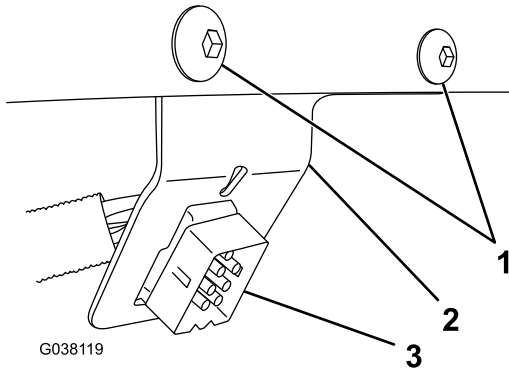

Figure 9
7. Pull the plow controller connector into the vehicle cab (Figure 9).
8. Mount the plow controller connector to the dash bracket, and secure the bracket to the left of the steering wheel using 2 self-tapping bolts (Figure 9).